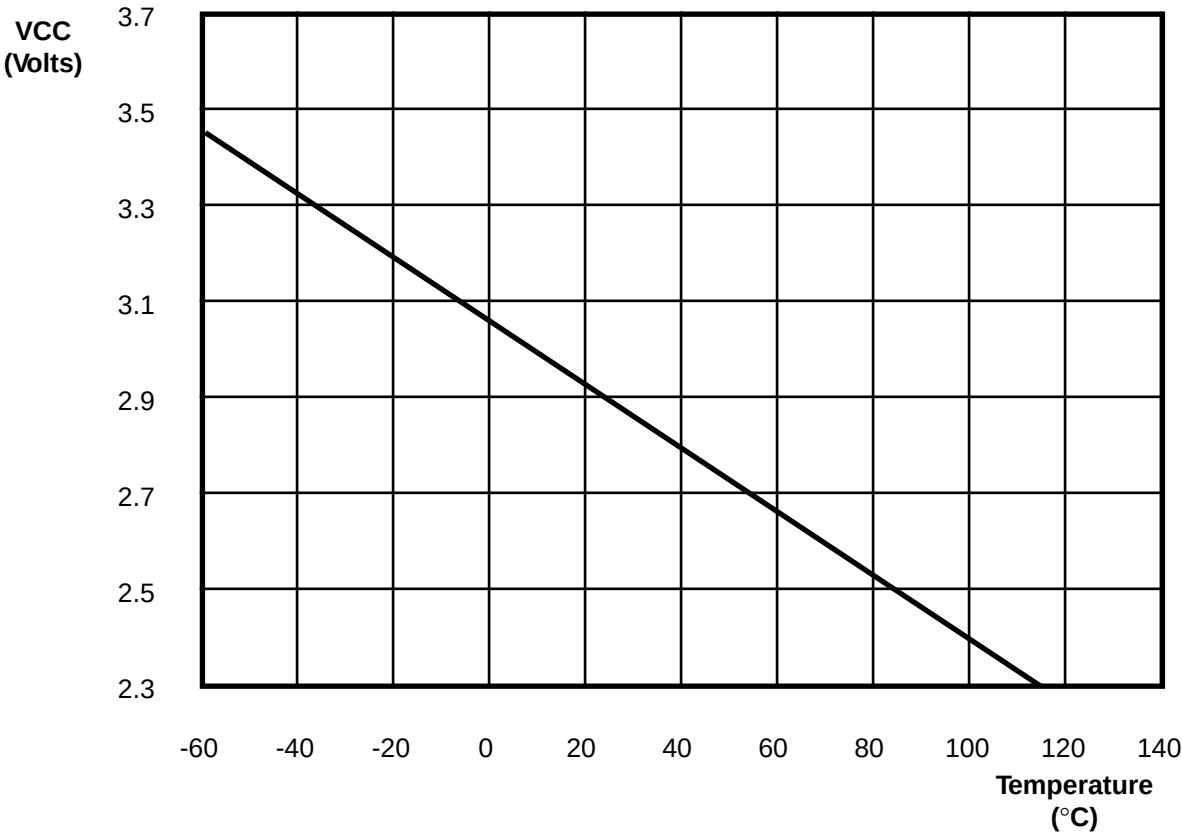

Figure 35. Typical Z86E40 VLV Voltage vs Temperature
**Auto Reset Voltage.** An on-board Voltage Comparator checks that  $V_{CC}$  is at the required level to ensure correct operation of the device. Reset is globally driven if  $V_{CC}$  is below  $V_{LV}$  (Figure 35).